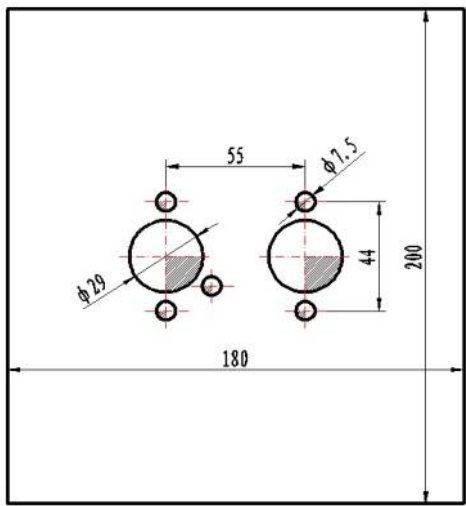

Fig 11
4.2.4 If the thickness of the installation panel < 1.5mm a mounting plate may need. Between mounting plate and the car body must also be sealed (use glass glue(Fig.11)).